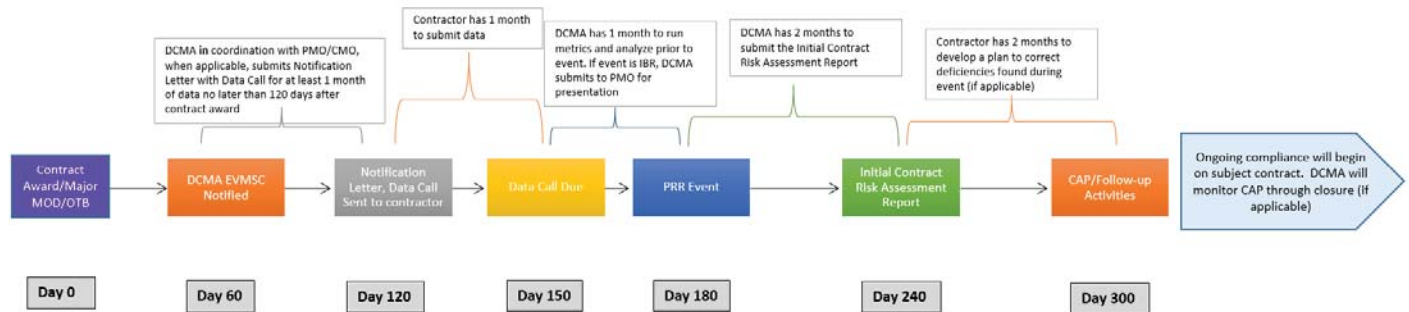

Figure 1: PMB Reliability Review Process Flow
1. The PRR process flow is shown in Figure 1. It will be executed either at award or after a major modification (e.g., an OTB) or any modification requiring an IBR). The PRR process begins by requesting contractor data through a data call, and evaluating selected test metrics (DCMA PRR Metrics, shown in Attachment B). These selected metrics assess baseline